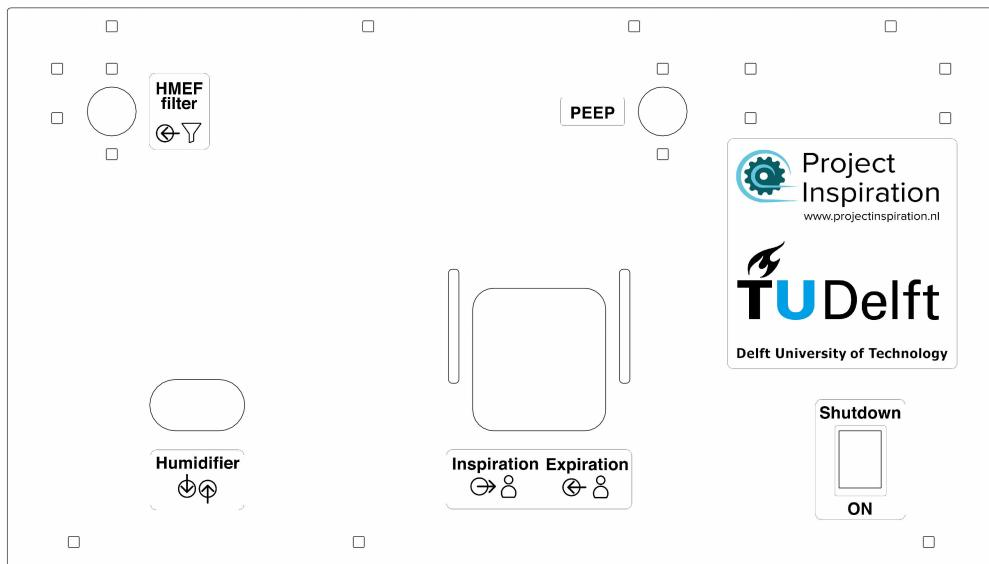

Figure 20: Placement of Stickers on Front Plate
1. Place stickers H23, H24, H25, H26 & H27 on the front plate of assembly HA7 as shown in figure 20.